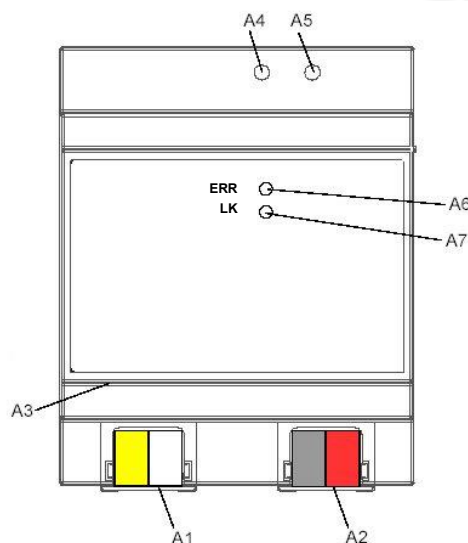

Figure 1: Location of the display and operating elements
- Connect the auxiliary power DC 24 V with the yellow-white bus connector terminal (Figure 1, A1).
- Connect the bus line with the black-red bus connector terminal (Figure 1, A2).
- Plug an Ethernet patch cable with an RJ45 plug into the RJ45 socket (Figure 1, A3) to connect the device with the LAN/Intranet.
A connection is established to the network when the yellow LED marked LK (Figure 1, A7) is continuously lit.
- Unplug the Ethernet patch cable from the RJ45 socket (Figure 1, A3)
- Remove the yellow-white bus connector terminal (Figure 1, A1) from its socket.
- Remove the black-red bus connector terminal (Figure 1, A2) from its socket.